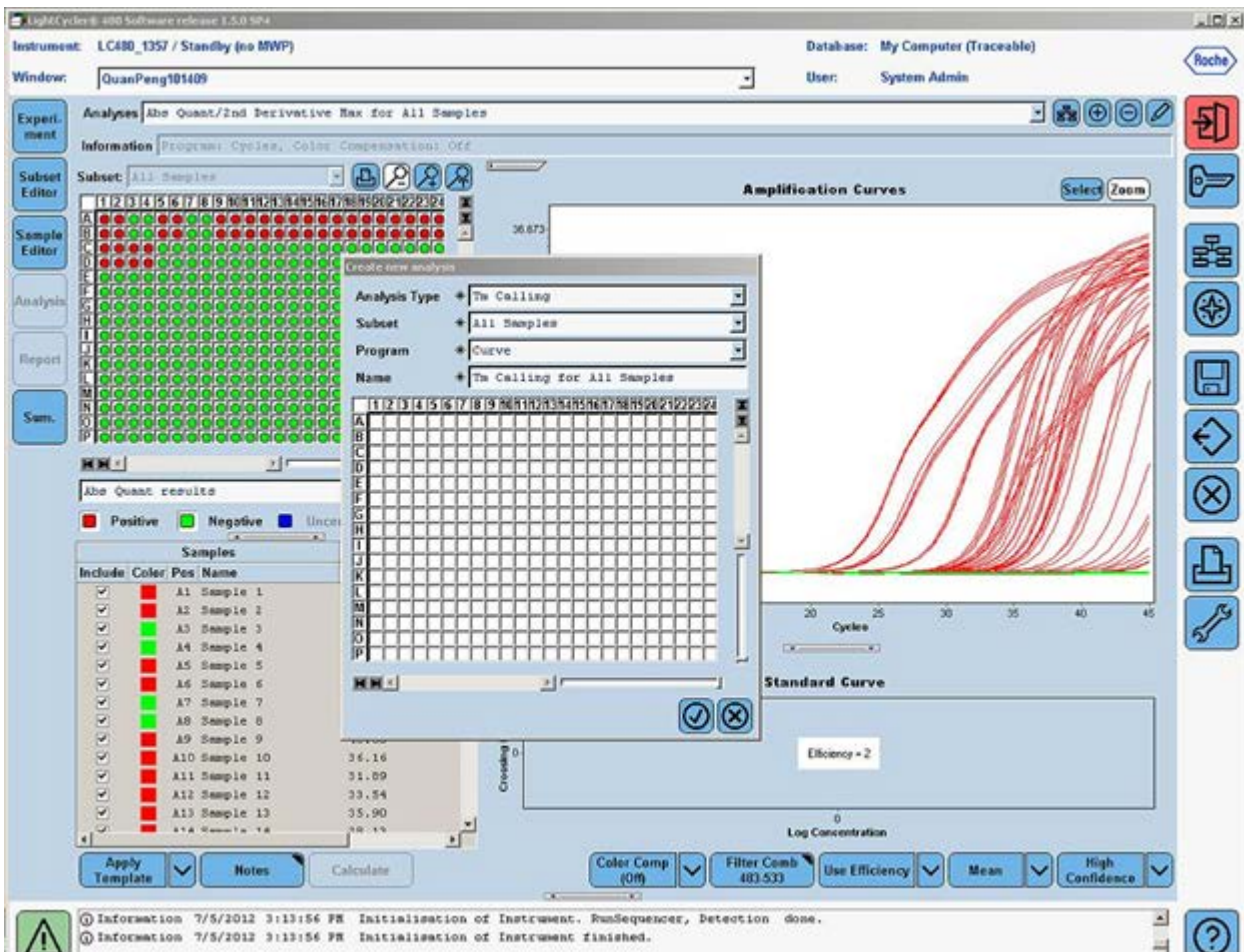

Figure 11. Setting up the melt-curve analysis.
- To proceed with the melt curve analysis, click the  button located on the right of the Analyses line at the top of the window. The Create new analysis dialog box will open (Figure 11). Select the "Tm calling" for the Analysis Type. Then click  to confirm the selection.